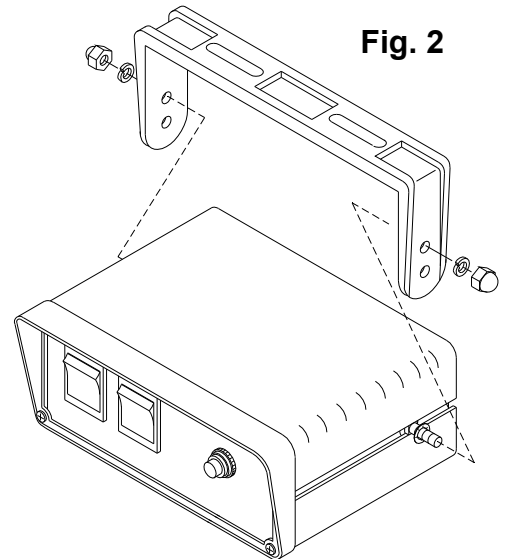

Fig. 2
4. Insert the Alpha siren amplifier into the bail strap, as shown in Figure 2. Please note that it will be necessary to spread the bail strap arms slightly apart to accept the Alpha's carriage bolts into their mounting holes.